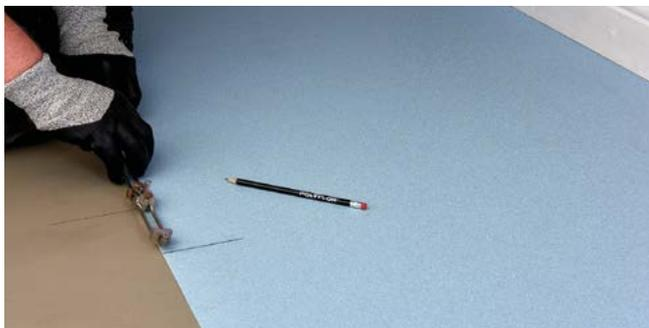

Figure 4 Setting the scriber
- ▶ Set the scribers to the distance now between lines C and D (Fig 4). Trace the end wall profile and cut to fit as described earlier.